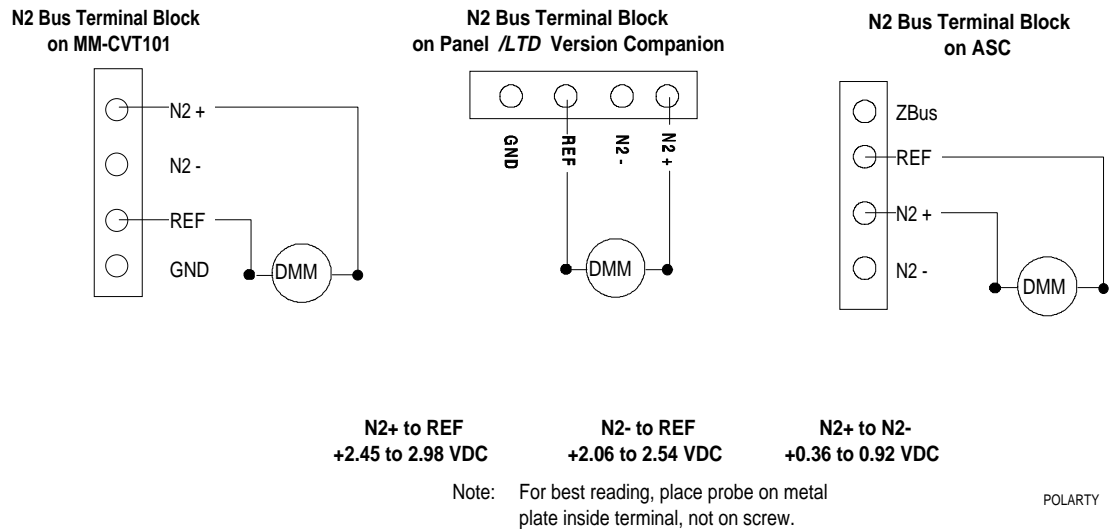

Figure 27: Test for N2 Bus Shorts, Crossed Wires, Grounds
Follow these steps, referring to Figure 27:
- Connect the Digital Multi-Meter across the N2+ and REF screws on the N2 terminal block (Figure 27). Write down the DC voltage reading. Repeat for N2- and REF, then for N2+ and N2-. Compare the voltages you read on the DMM to the following values:
- Check the voltage and polarity of the N2 DC bias voltages at the FHI. Do so by connecting the DMM across N2+ and REF (Figure 27). Write down the reading. Repeat for N2- and REF, then for N2+ and N2-. Compare the voltages you read to the following values: